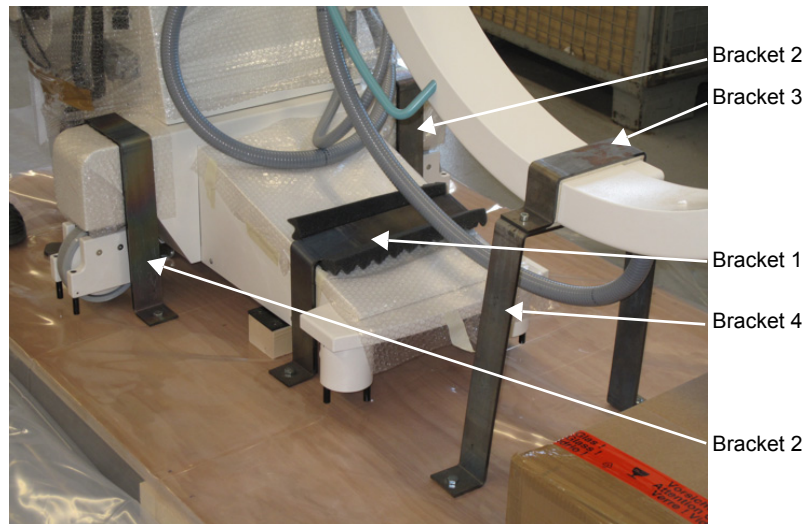

Fig. 13-9 Retaining brackets 1–4
- Attach retaining bracket 3 to retaining bracket 4 by means of the corresponding fillister head screws, as illustrated in *Fig. 13-9*.